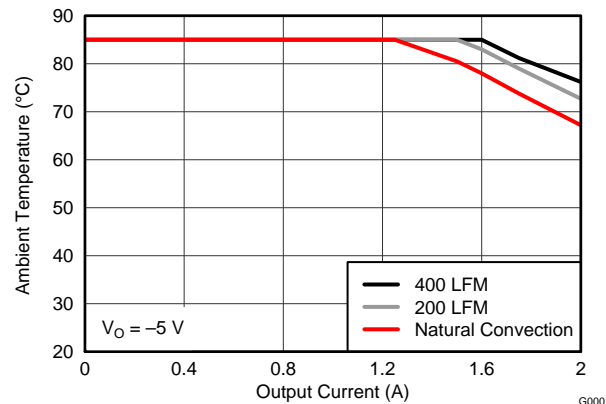
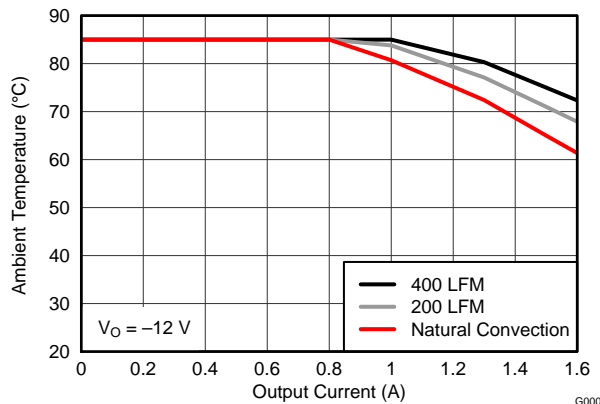
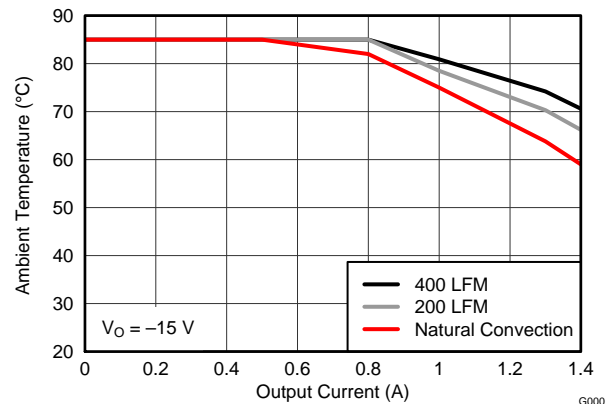

Figure 18. Safe Operating Area
Figure 19. Safe Operating Area
Figure 20. Safe Operating Area
- (3) The temperature derating curves represent the conditions at which internal components are at or below the manufacturer's maximum operating temperatures. Derating limits apply to devices soldered directly to a 100 mm × 100 mm, 4-layer, double-sided PCB with 1 oz. copper. Applies to Figure 18, Figure 19, and Figure 20.